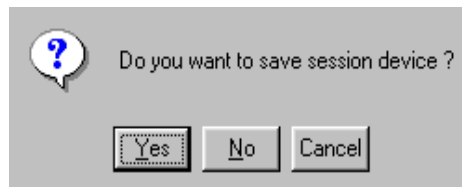

Figure 3-26 HyperTerminal Dialog Box
- m. Click Yes. A second *HyperTerminal* dialog box displays (Figure 3-26).